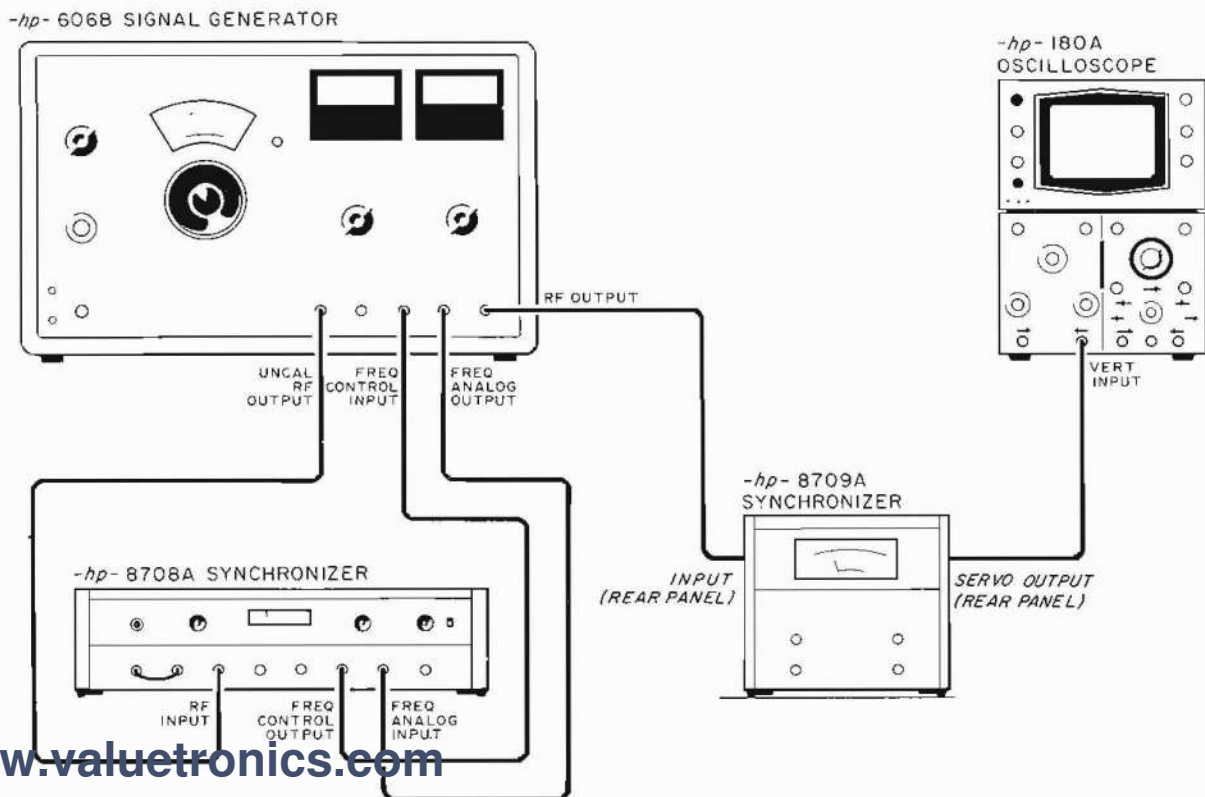

Figure 5-4. Servo Output Test Setup
a. Connect the 8709A to the test equipment as shown in Figure 5-4.